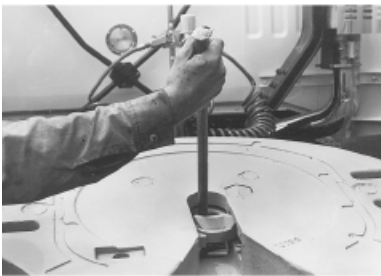

Figure 45
1. Lock the jaw mechanism using a bar or block (Figure 45).